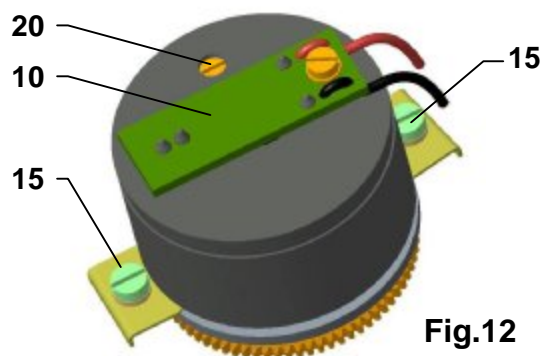

Fig.12
4.6 Adjustment of Capacitive Transmitter CPT1/A (Fig.12)